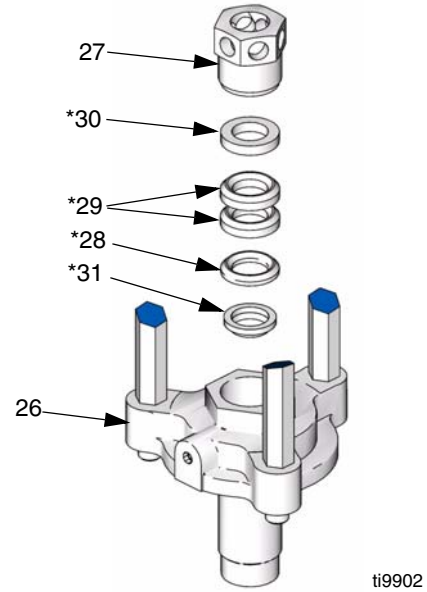

FIG. 23
- Remove hex nut (27) from mounting flange (26). Remove female gland (30\*), 2 PTFE packings (29\*), male gland (28\*) and wiper (31\*). Inspect all parts for damage. See FIG. 23.